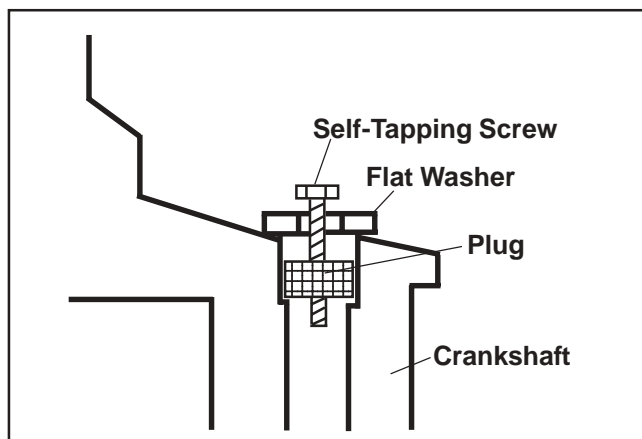

Figure 10-2. Removing Crankpin Plug.
2. Thread a 3/4" or 1" long self-tapping screw with a flat washer into the drilled hole. The flat washer must be large enough to seat against the shoulder of the plug bore. See Figure 10-2.